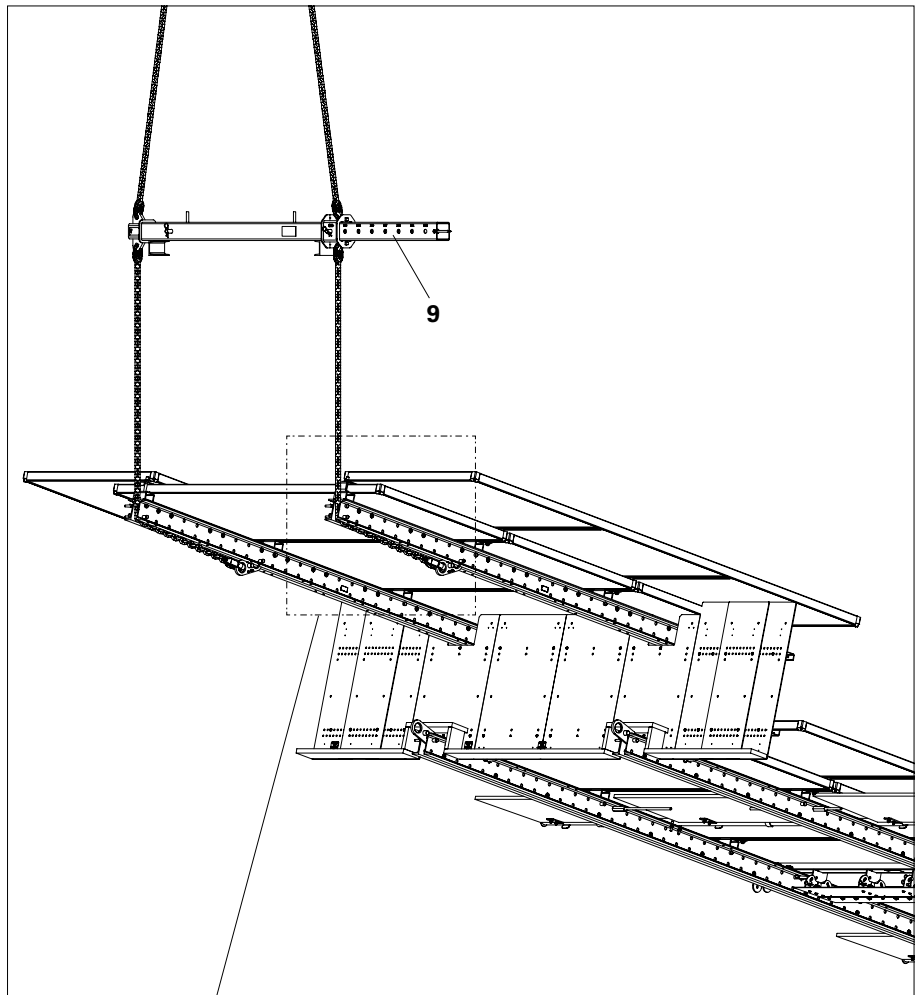

Fig. C3.02
3. Adjust Lifting Beam 10 t (9) to suit the climbing rail spacings.
6. Align and lift the climbing unit. (Fig. C3.02 + C3.02a)